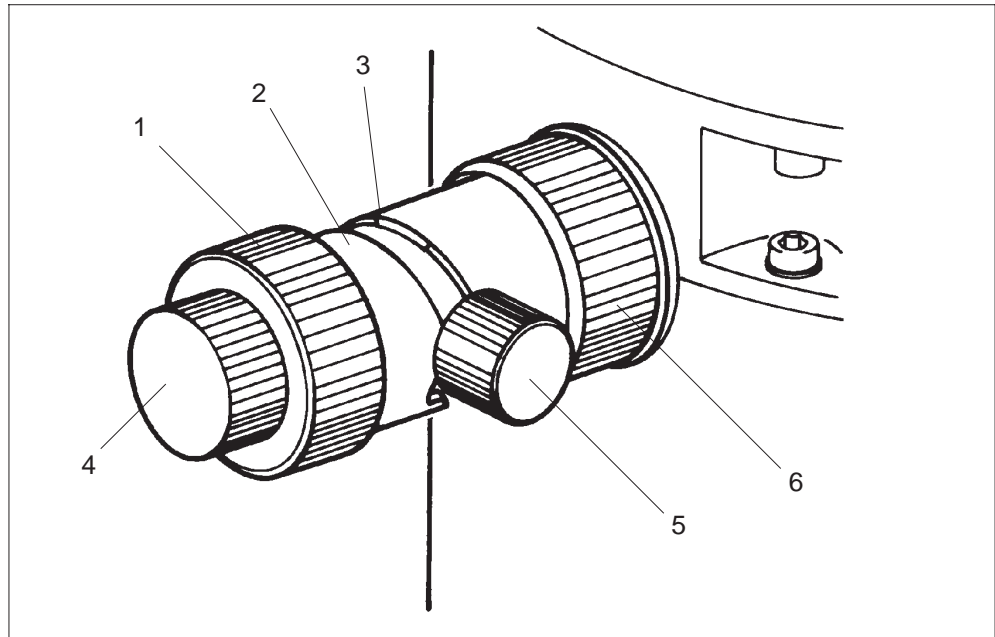

Fig. 1-44: Aperture drive (all apertures except for slit aperture)
- With the large knurled knob (1, Fig. 1-44) on the face of the drive the aperture holder is axially shifted coarsely to the individual aperture positions. The drive engages several notches (3) on the inner edge of guide (2), which defines the different aperture positions.